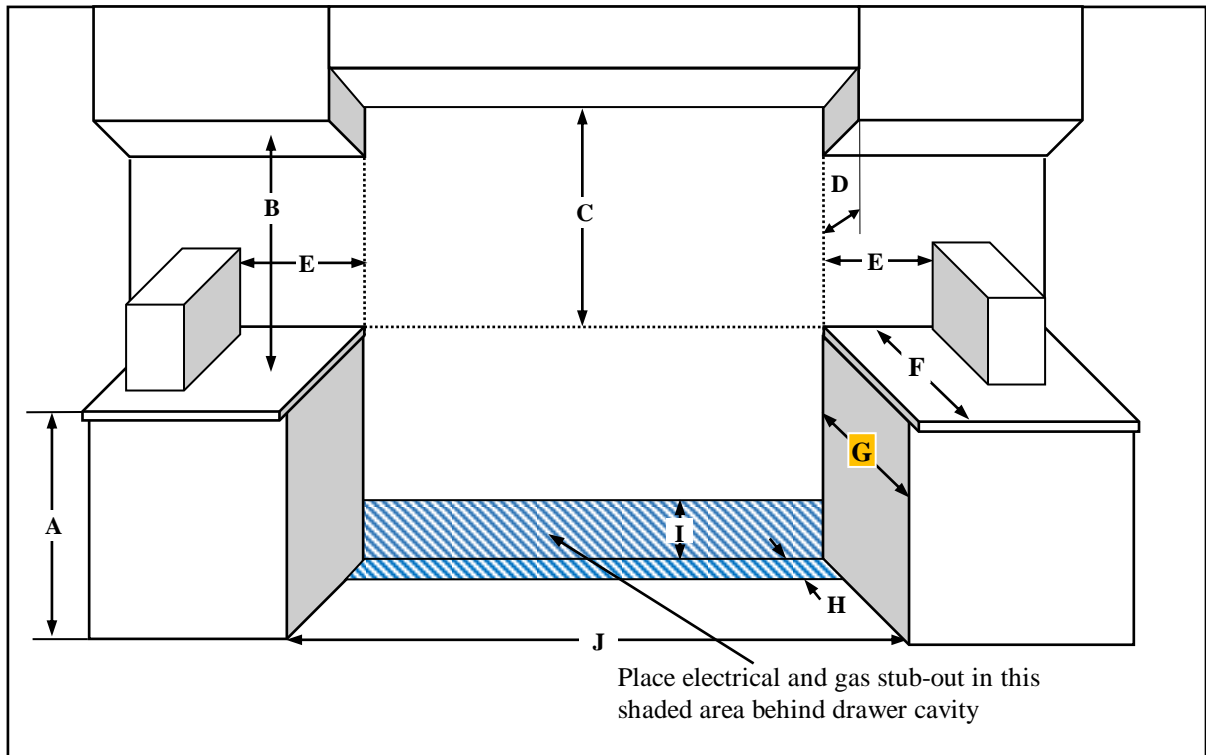

Fig. 3
- The range is a free standing unit. If the unit is to be placed next to cabinets, the clearances shown in Figure 3 are required.